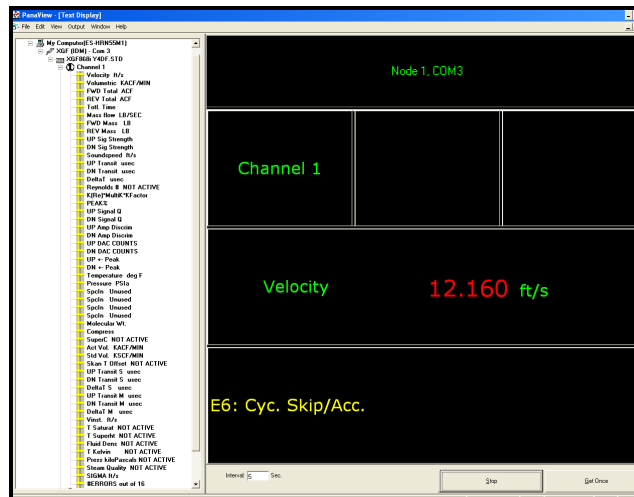

Figure 18: Multiple Text Screens in the *Text Display* Window
2. Repeat Step 1 for any desired additional process parameters, by double clicking on them in the PanaView network tree. PanaView automatically tiles the multiple text screens in the right pane of the *Text Display* window, as shown in Figure 18.